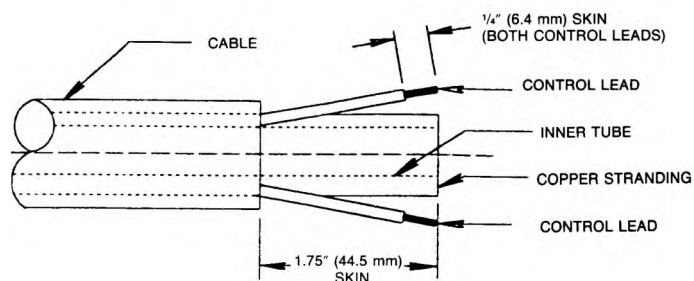

FIGURE D.1
- Cut off the damaged section of cable and strip off the outer jacket as shown in Figure D.1. Be careful not to cut the insulation on the control wires while stripping jacket. Strip the red and white control leads 1/4 inch (6.4mm) from the end and crimp a new S19492-2 terminal to each lead.
- Cut off the damaged section of cable and strip off the outer jacket as shown in Figure D.1. Be careful not to cut the insulation on the control wires while stripping jacket. Strip the red and white control leads 1/4 inch (6.4 mm) from the end and crimp a new S19492-1 terminal to each lead.